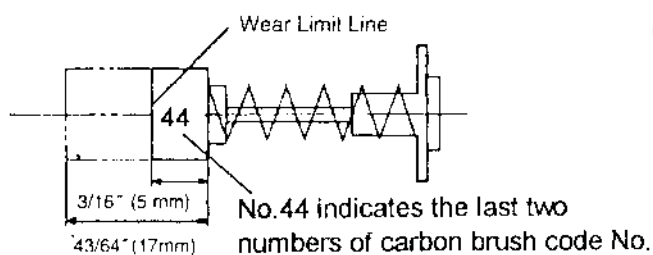
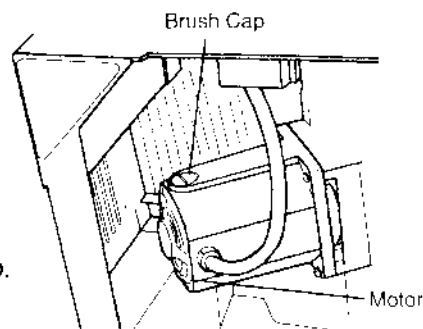

Fig. 36
Fig. 37
2. Inspecting the carbon brushes (Fig.36 and Fig.37)
The carbon brushes in the motor are expendable parts. If the brushes become excessively worn, motor trouble might occur. Therefore, inspect the brushes periodically and replace them. Check the brushes after the first 50 hours of use for a new machine or after a new set of brush have been installed. After the first check, examine them after each about 10 hours of use until such time that replacement is necessary. When the carbon on either brush is worn to 3/16" (5mm) in length or if either spring or shunt wire is burned or damaged in any way, replace both brushes (see Fig.36). If the brushes are found serviceable after removing, reinstall them in the same position as before removed. Also, keep the carbon brushes clean so that they will slide smoothly within the brush holders. The carbon brushes can easily be removed after removal of the brush caps (see Fig.37) with a slotted (minus) screwdriver.